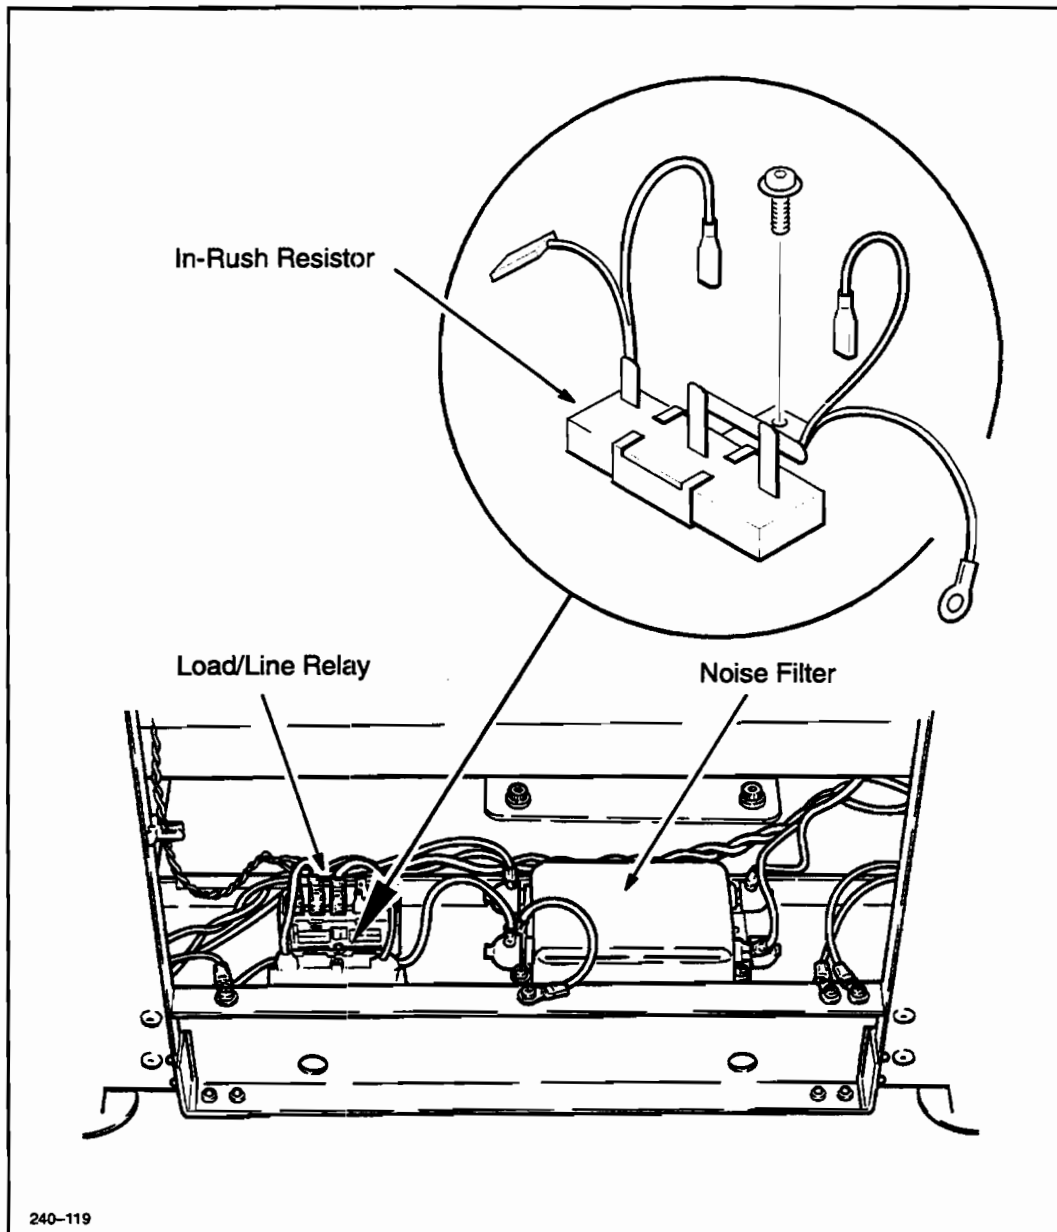

Figure 6-17. In-Rush Resistor Removal (Models 240D/E and 250/255)
- Referring to Figure 6-17 make note of the wire connections on the In-Rush resistor and then disconnect the wires from the noise filter (NF1) and the relay (RL1) which connect the In-Rush resistor R1.
3. Referring to Figure 6-17 make note of the wire connections on the In-Rush resistor and then disconnect the wires from the noise filter (NF1) and the relay (R11 which connect the In-Rush resistor.